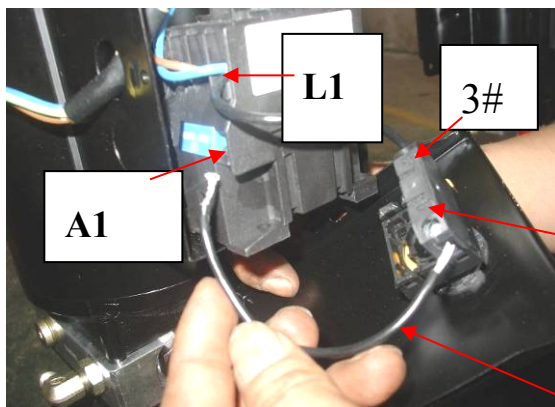
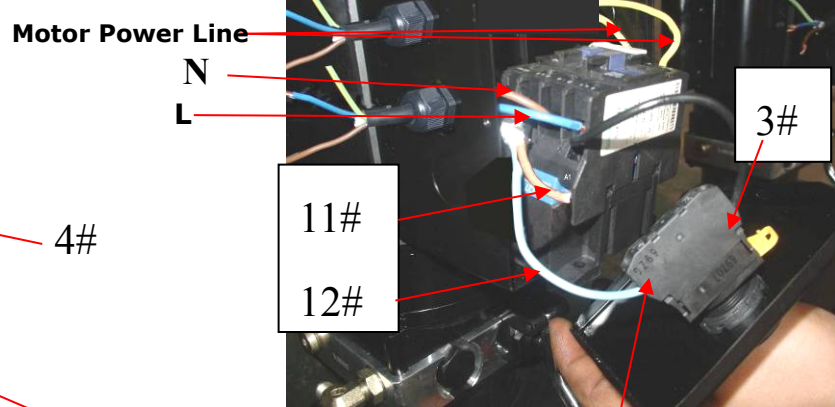

Fig. 38
Fig.39
4. Connecting Limit switch: Remove the line of connecting terminal 4# of control button and **A1** of AC contactor (**see Fig.38**) . Connecting wire 12#(brown wire) of limit switch with terminal 4# of control button ; Connect wire 11#(blue wire) with terminal **A1**# of AC contactor. Connecting the yellow and green wire to the terminal earth wire of limit switch and terminal earth wire of power unit. (**see Fig.39**)